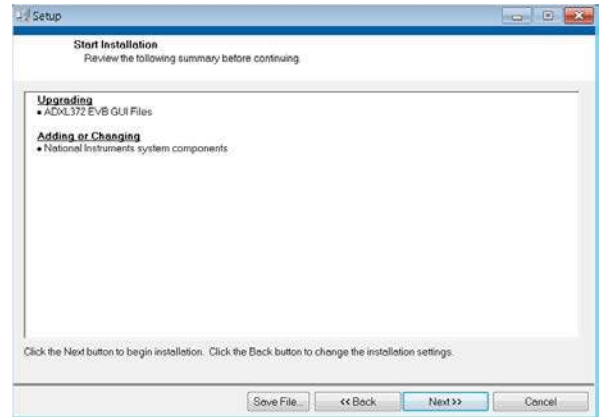

Figure 8. ADXL372 Evaluation Board GUI Start Installation (Listing Varies Based on PC Requirements)
3. Read the license agreement before accepting it. Click **Next**. The installer lists the required components to install on your PC (see Figure 8).